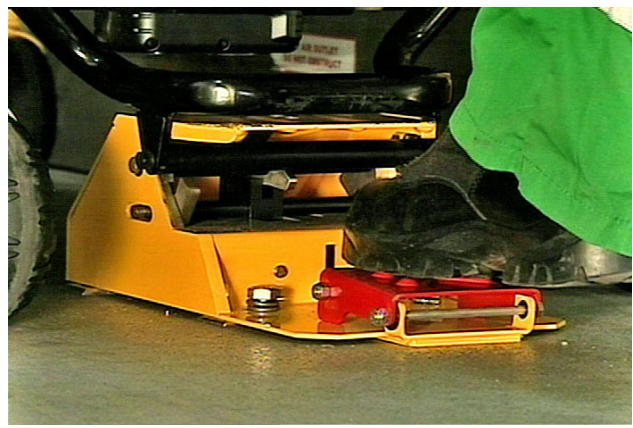

Figure 13
3. Using the optional push bars, both operators should push/pull the cot up the ramp, head end first. The operators should carefully guide the cot up the center of the ramp as shown in Figure 13).